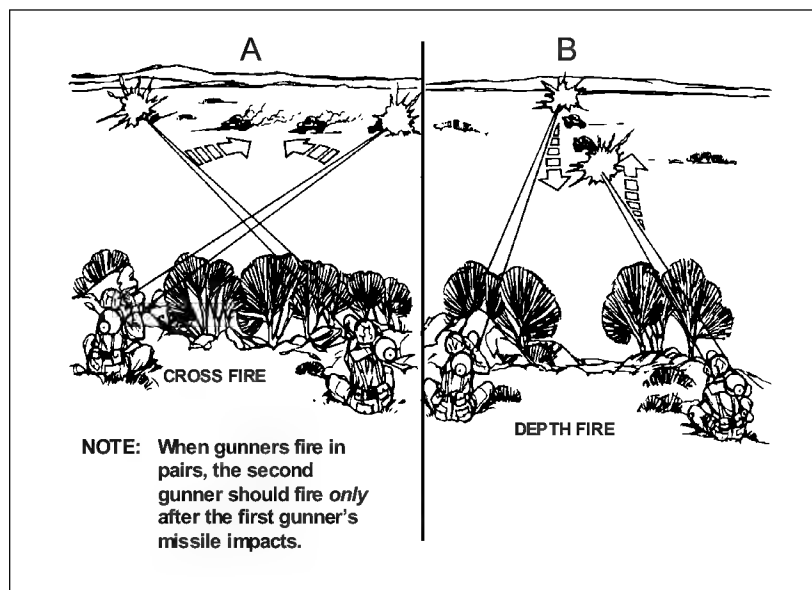

Figure 8-23. Fire patterns.
(c) *Follow-Up.* As they destroy their targets, Dragon gunners shift their fire to the center of the enemy formation (A, Figure 8-23, page 8-20).
(2) **Depth Fire.** Leaders use depth fire when targets are exposed in depth. Dragons on one side engage the nearest targets, while Dragons on the other side engage the farthest targets. The gunners then shift their fire toward the center of the formation. This can be specified by unit SOP or in the section leader's order (B, Figure 8-23, page 8-20).